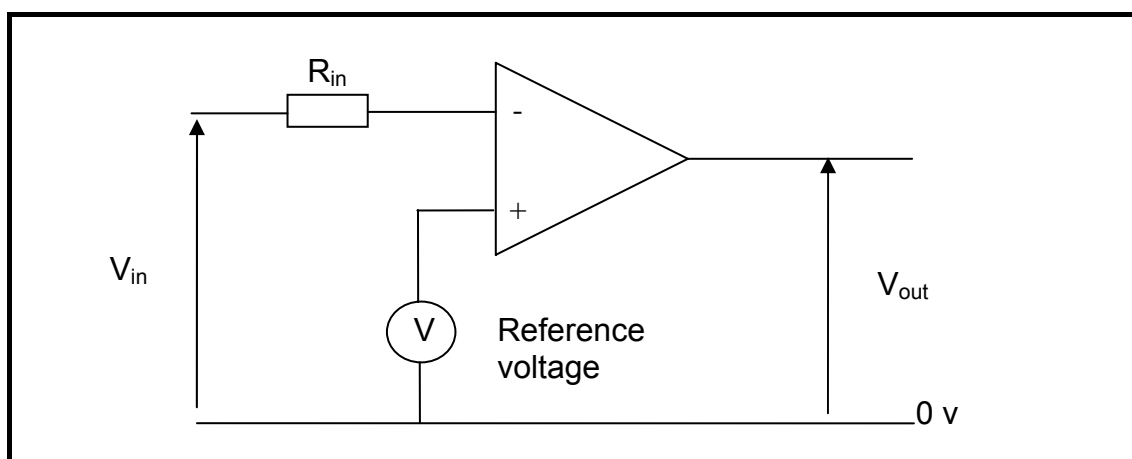

FIGURE 7.2: OPERATIONAL AMPLIFIER CIRCUIT
- 7.7 FIGURE 7.2 below is a circuit diagram of an operational amplifier. (2)
- 7.7.2 Draw the output wave for the circuit in FIGURE 7.2 if the input is a triangular wave. (2)